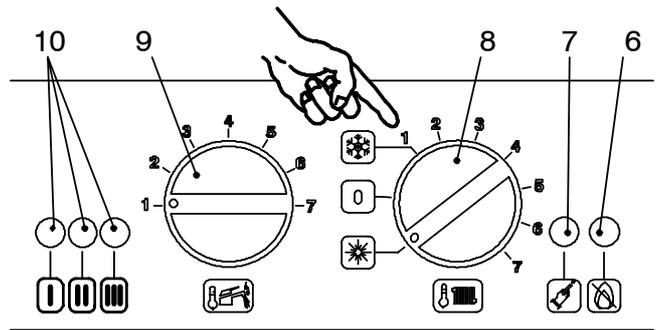
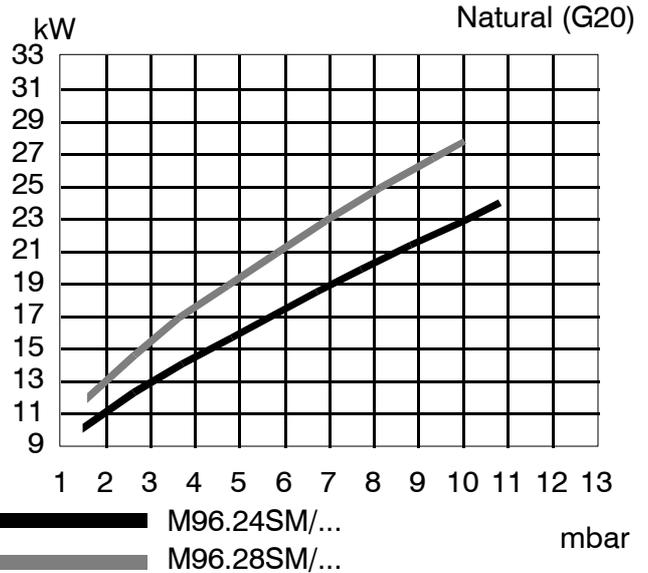
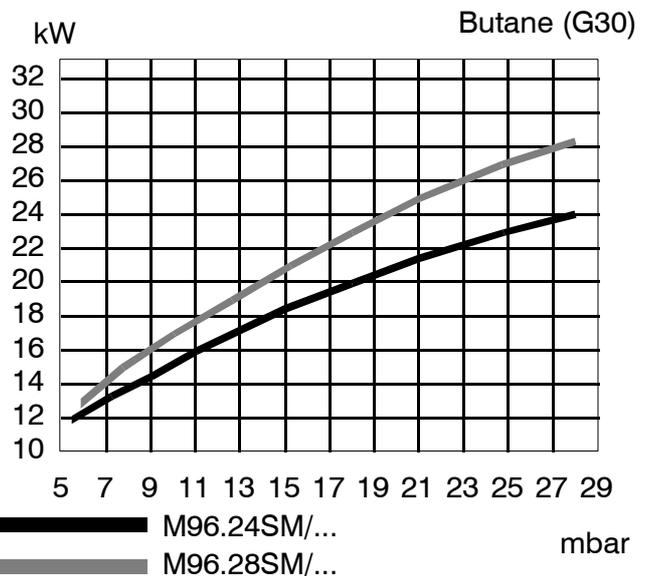
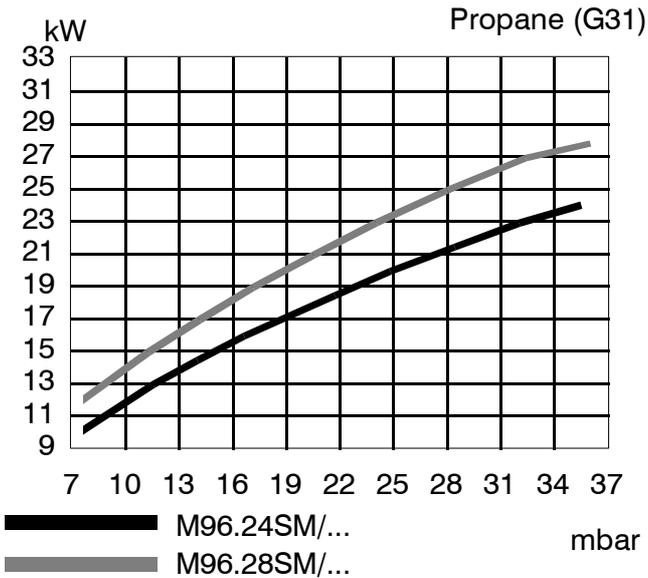

Fig. 7.6
Fig. 7.11
Fig. 7.12
Fig. 7.13
Refer to Fig. 7.11, Fig. 7.12 and Fig. 7.13 (depending on the gas used) and determine the correct burner pressure appertaining to the output required for the central heating requirement.
- 3 Rotate the knob 9 as in Fig. 7.6
- 4 Turn the boiler ON positioning the function selector 8 as indicated in Fig. 7.6 and ensure that the timer selector switch and room thermostat, if fitted, are set to "heat demand".
- 8 Rotate the knob 9 in Fig. 7.6 to obtain the pressure to the burner to meet with the central heating system requirements. Refer to the diagrams shown in Fig. 7.11, Fig. 7.12 or Fig. 7.13. By rotating clockwise the pressure increases.